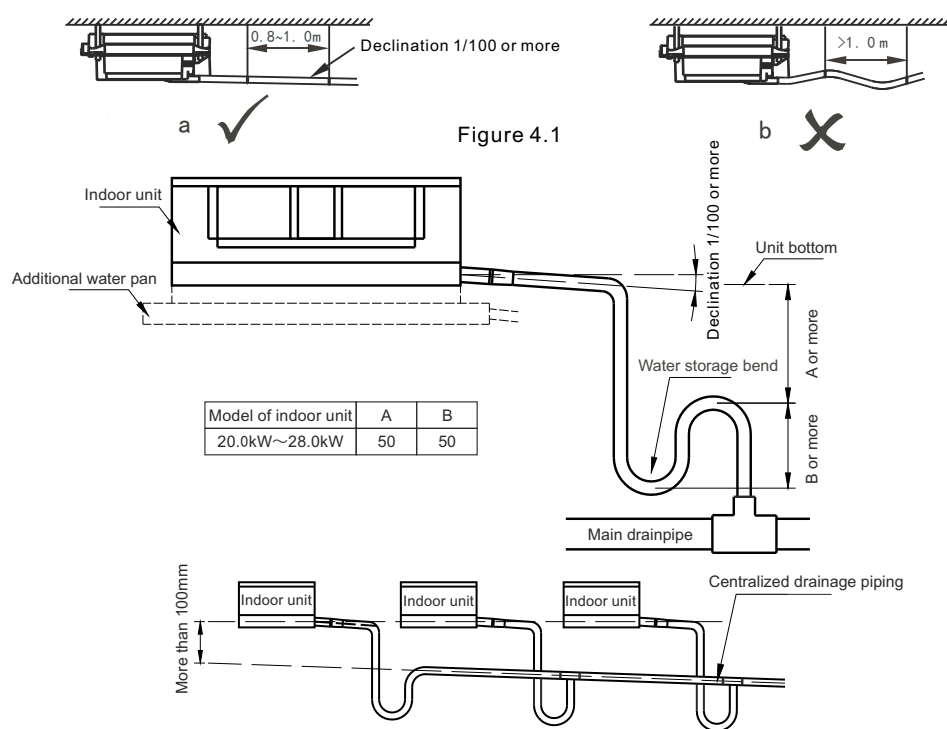

Figure 4.2
- 6) Follow Figure 4.2 for the piping when you install the drain pipe in the centralized way.